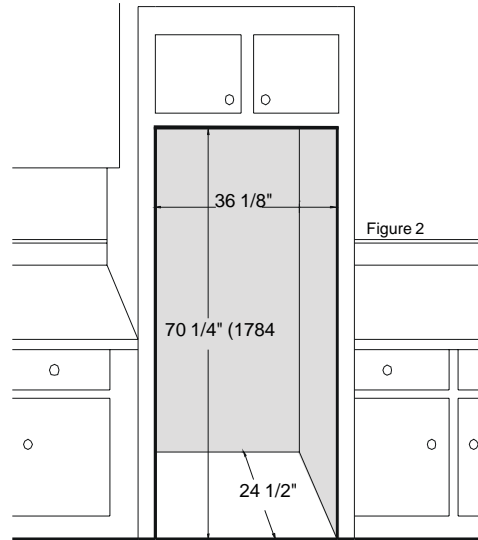
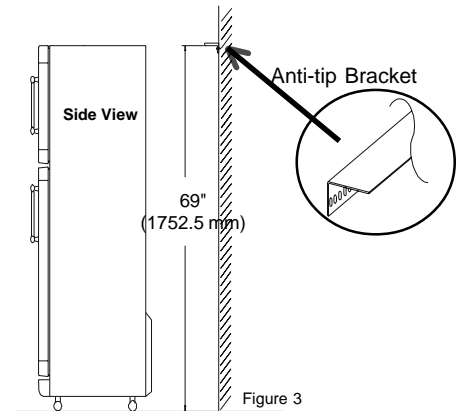

Figure 2
Figure 3
- a) Alcove Installation (Figure 2)
- b) Anti-tip Bracket Installation (Figure 3)
- Install the anti tip bracket supplied (as shown in Figure 3)
- Secure the bracket to the marked positions on the wall, with a minimum of three (3) wood screws penetrating at least 3/4" (19 mm) into wall studs.
- Raise rear of unit by turning the 5/16" rear roller adjustment screw clockwise until the unit is snug against the anti tip bracket (Figure 3), or the top cabinetry in an alcove installation (Figure 2).